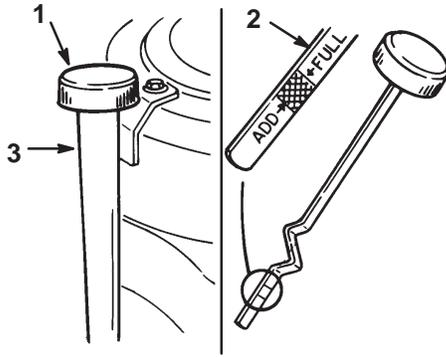

Figure 21
5. Slowly pour approximately 80% of the specified oil, page 26, into the filler tube (Fig. 21). Now check the oil level; refer to Checking Oil Level, page 26. Slowly add additional oil to bring to "FULL" mark on dipstick.